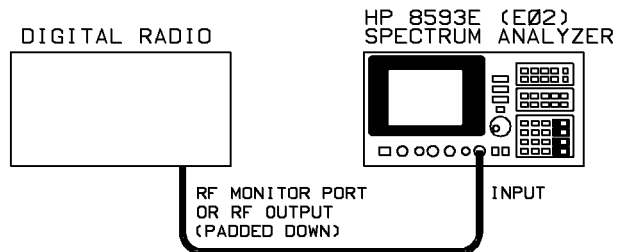

Figure 3-10. Spectral Occupancy Setup
3. Connect the test setup as shown in Figure 3-10 below.